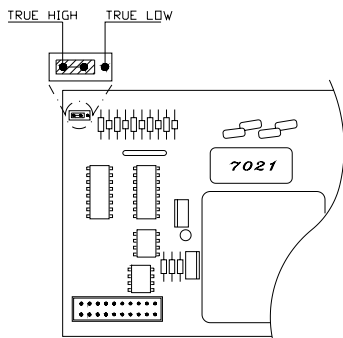

Figure 6.
9.3 ADDRESS POLARITY (see fig 6)